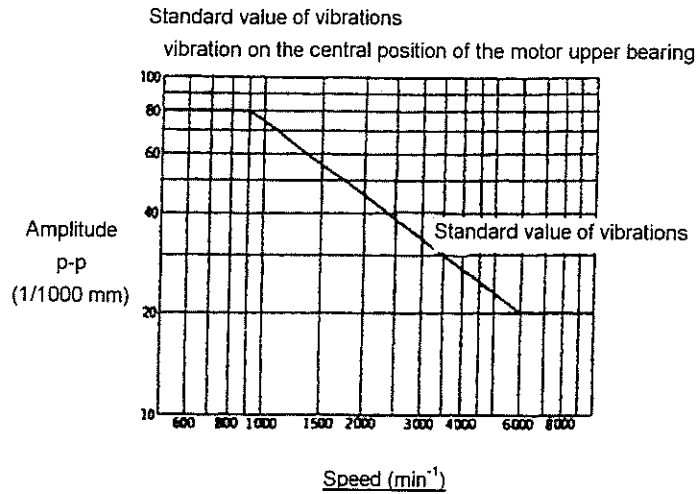

Fig. 5
- (2) There should be almost no leakage if the mechanical seal is normal. If there is a large amount of leakage, replace the mechanical seal.
- (3) Standard value of vibrations for when the pump is installed correctly and piping work has been performed correctly are shown in Fig. 5. Wrong piping work can often cause excessive vibrations.